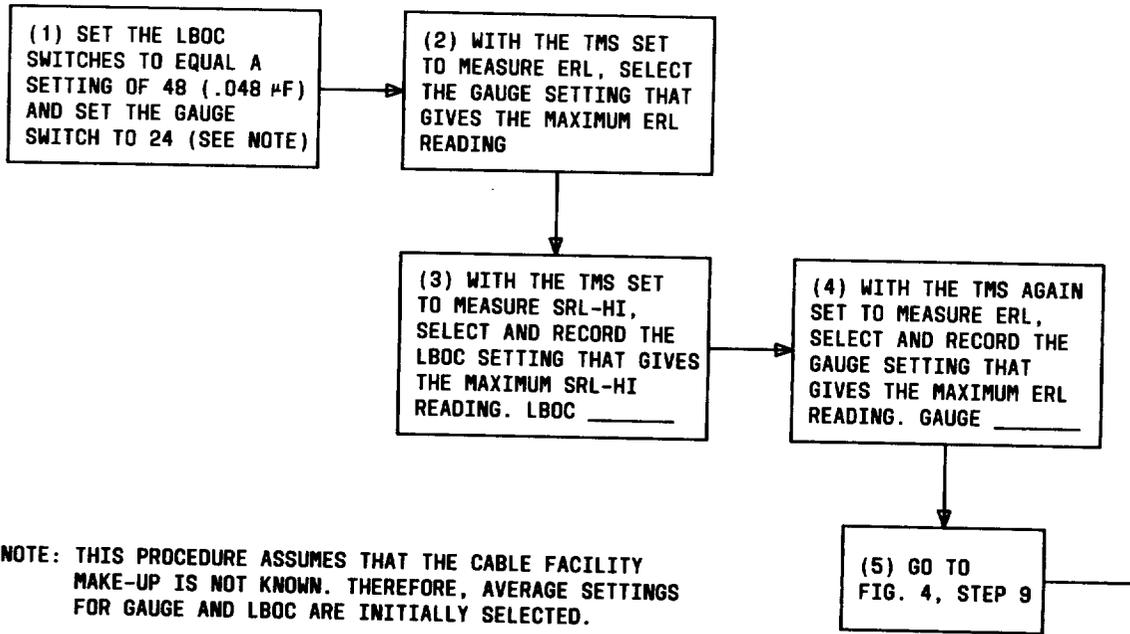
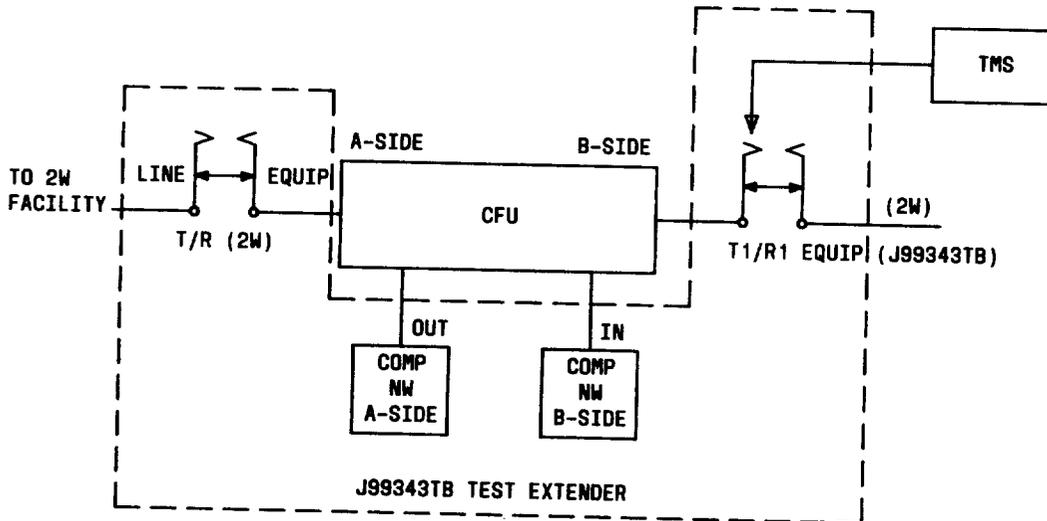

Fig. 7—Procedure for Determining Optimum Gauge and LBOC Settings When the A-Side Loaded Facility Makeup is Not Known
Fig. 8—Typical Test Configuration for Setting A-Side Gauge Switches
7.07 In applications where the makeup of the A-side loaded facility is not known, or if the facility makeup is a known mixed gauge and the circuit does not perform satisfactorily, optimized GAUGE switch settings can be determined by performing the following procedure and steps in Fig. 7. A typical test configuration for setting the A-side balance network is shown in Fig. 8.
6	Connect the TRMT jack (2-wire) of the RLMS to the B-side 2W EQUIP jack on the J99343TB test extender to set the A-side network. See Fig. 8 for test configuration.
7	Go to Fig. 7 for adjustment of the A-side GAUGE and LBOC switches.